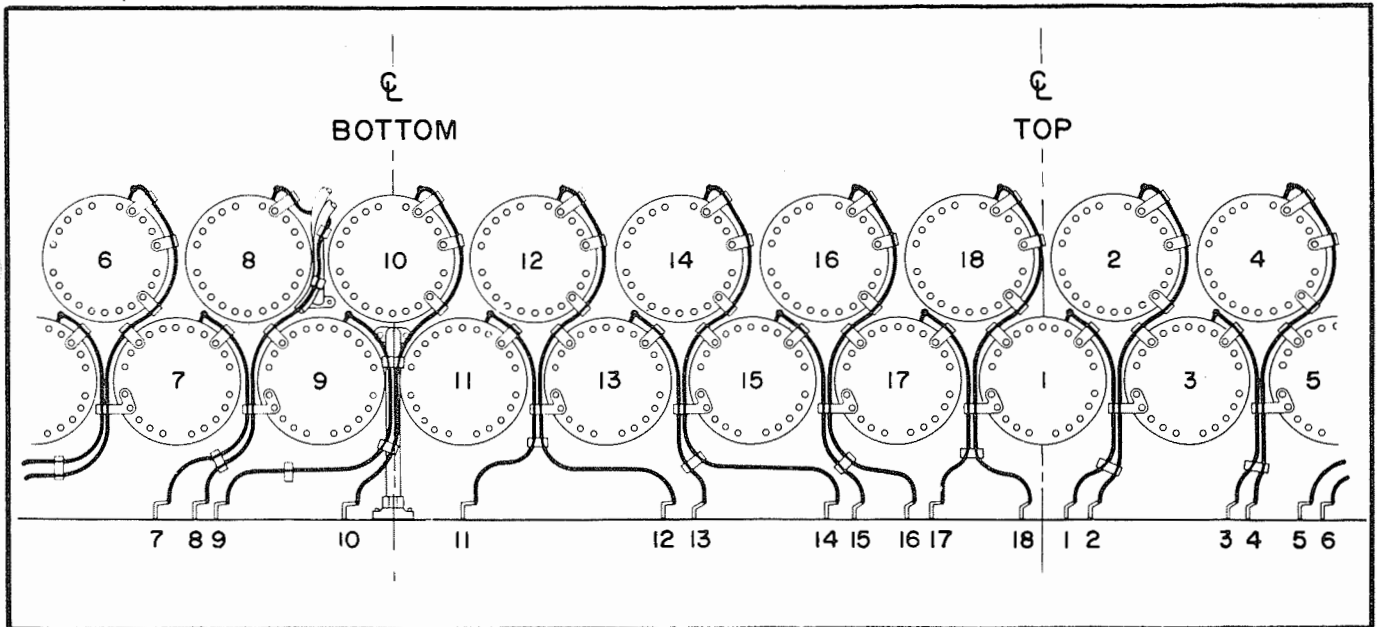

Figure 7-103. Schematic of Fuel Injection Hose and Clips Positioning
b. Route the hose through the cylinders as shown in figure 7-103, engaging the hose in the various clips.